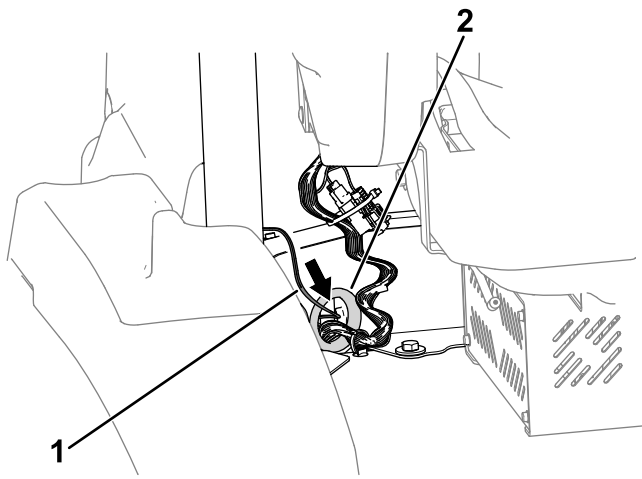

Figure 6
3. Route the wire-harness end labeled P09 through the platform grommet (Figure 6).